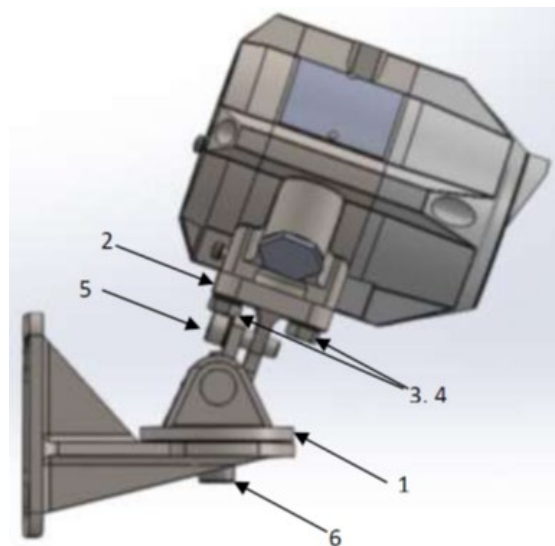

Figure 15 : Detector on Tilt mount – Side view
- a) Place the detector, with its cable/conduit entries pointing down, on the holding plate of the tilt mount (item 2, Figure 15).
- b) Secure the detector to the plate using the two hex screws and spring lock washers (items 3 and 4).
- c) Loosen the locking screws (Items 5 and 6, Figure 15) in such a way that enables you to rotate the detector.